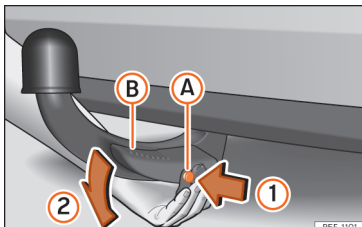

Fig. 270 Removing the tow hook
- Press the release bolt (A) in the direction of arrow (1), and at the same time press lever (B) as far as it will go in the direction of arrow (2) » Fig. 270.